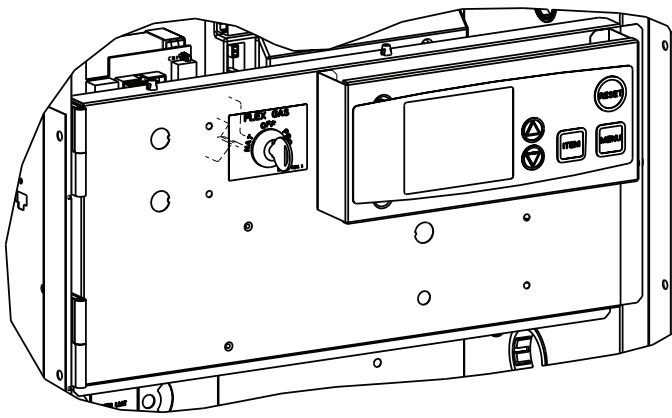

Figure 5. FlexGas Control Panel
1. Turn off unit. Ensure that the switch on the FlexGas control is in the position marked "NAT". See **Figure 5** for FlexGas control operation. Ensure the manual valve on the natural gas supply is open and the manual valve on the propane supply is closed.